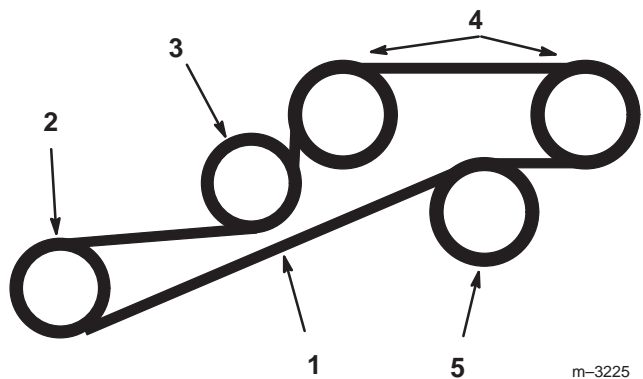

Figure 32
2. Push spring loaded idler down and remove traction belt from the engine, fixed idler and hydro pump pulleys (Fig. 32). Remove belt over clutch.
3. Install new belt over clutch and around engine, fixed idler and hydro pump pulleys (Fig. 32).
4. Push spring loaded idler down and align below traction belt. Release pressure on spring loaded idler (Fig. 32).